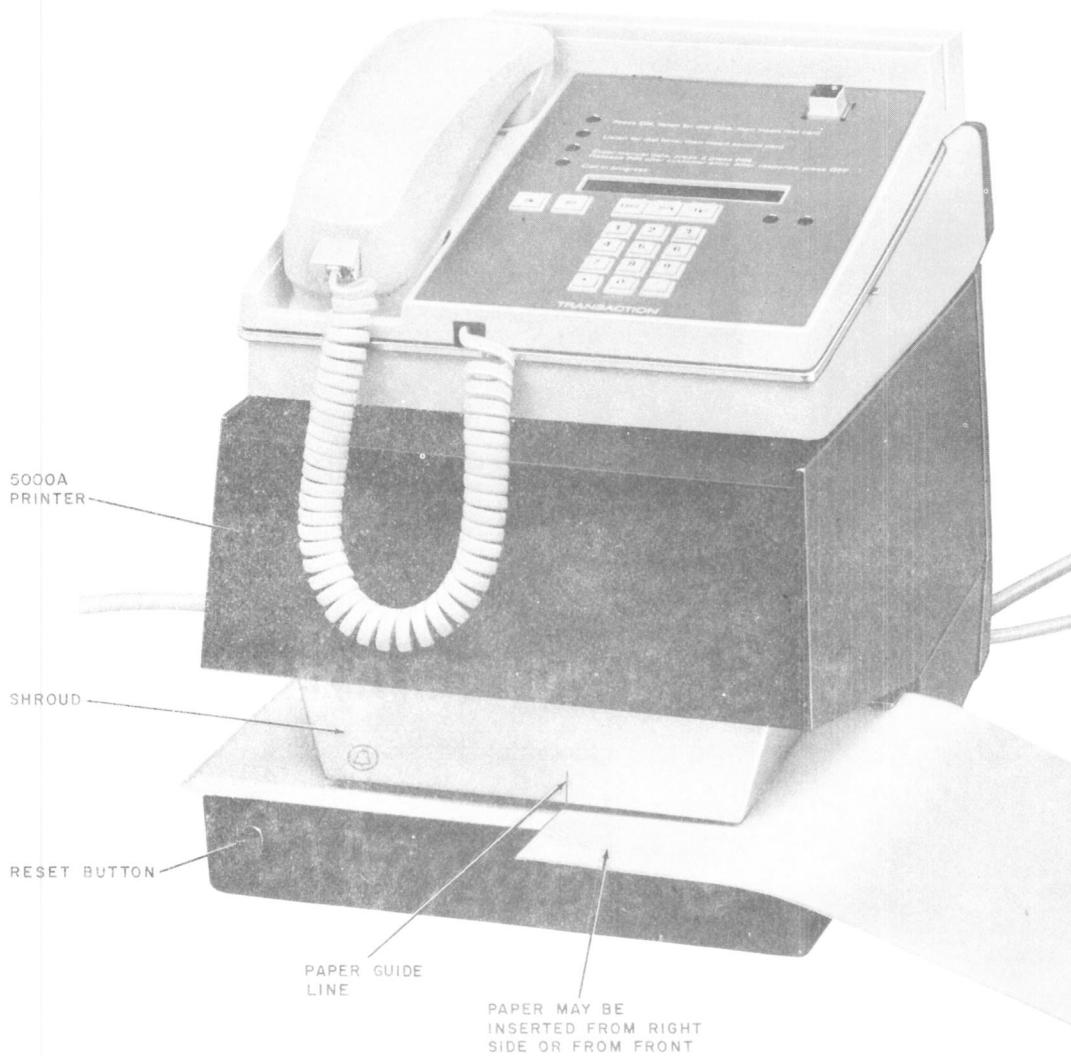

Fig. 13—5100BM Transaction Telephone Set Installed on 5000A Printer
- (1) Disconnect the printer from ac power source.
- (2) If the 5100BM set is located on the printer (Fig. 13 or 14), it must be removed, but it should not be necessary to disconnect the power or mounting cord.